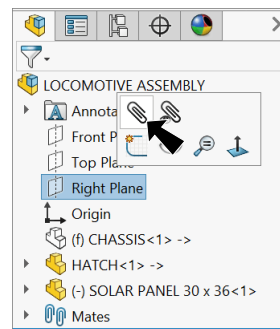

Fig. 11
Step 1. Click **Right Plane**  in the Feature Manager and **Mate**  on the context toolbar, **Fig. 11**.